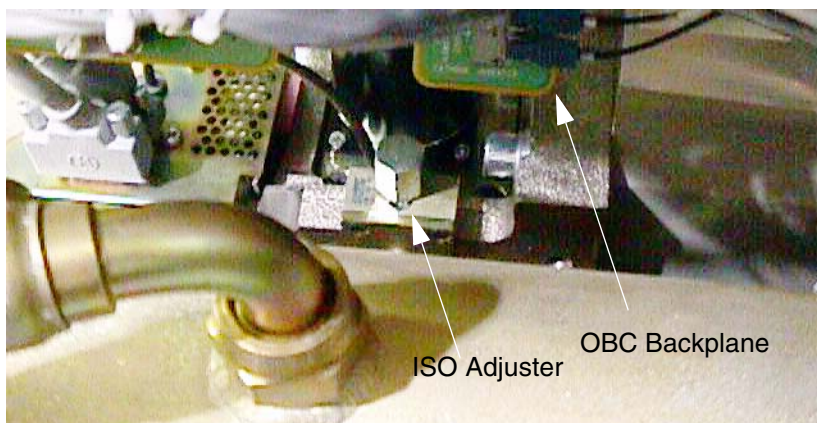

Figure 38 - ISO Alignment Adjuster
- 9.) Adjust the tube UP / DOWN as indicated by the calculation. The adjustment bolt is located on the top of the tube - Please see Figure 38.